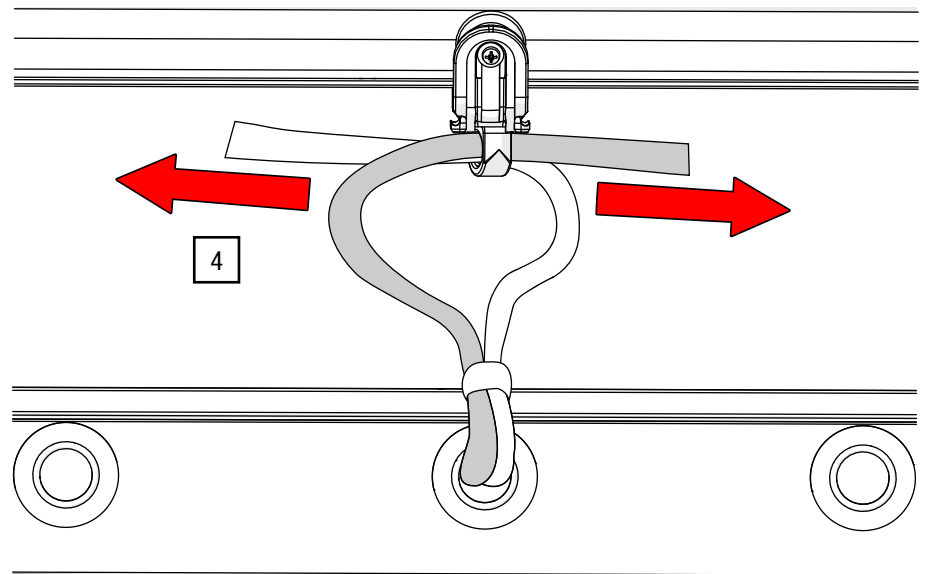

Fig. 92: Tie line – Pull in opposite directions through runner
4. Pull the two loose ends of the tie line in opposite directions through the eyelet of the G-TRACK runner and set the desired curtain height (see Fig. 92).